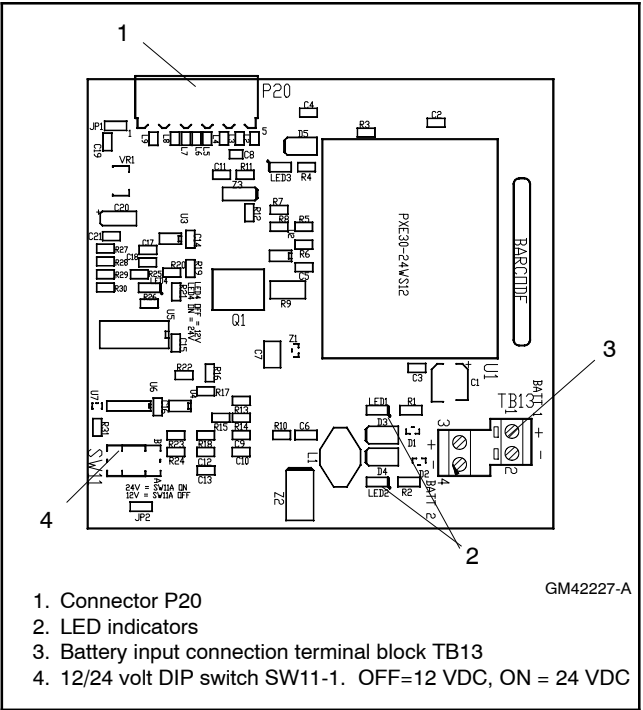

Figure 4-16 External Battery Supply Module
The external battery supply module kit includes one external battery supply circuit board and the circuit board mounting components. See Figure 4-16.
1. Use #14-28 AWG wire to connect one or two batteries to terminal block TB13. (A second battery can be connected but is not required.) Follow the marking on the board for the positive (+) and negative (-) connections. See Figure 4-16 and Figure 4-17.
Note: If the battery connections are reversed, red LED1 or LED2 will light. See Figure 4-16.
2. Set voltage selector switch SW11-1 to 12 or 24VDC. See Figure 4-16 and Figure 4-17. Switch SW11-2 is not used.